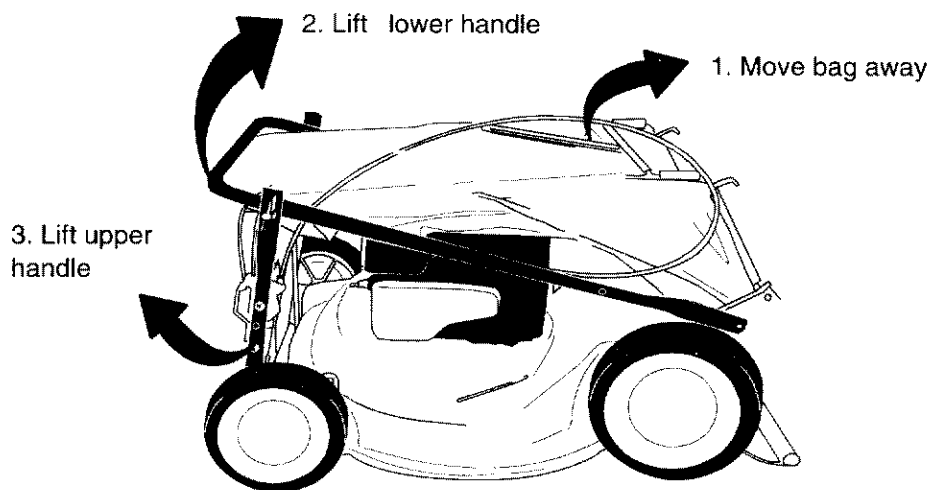

FIGURE 4
- Remove grass bag from the unit and set it out of the way. See Figure 4 (step 1).
- Raise the lower handle in the direction shown in Figure 4 (step 2) till it snaps into place.
- Raise the upper handle in the direction shown in Figure 4 (step 3). Tighten the wing nuts which are already on the handle. See Figure 5A.